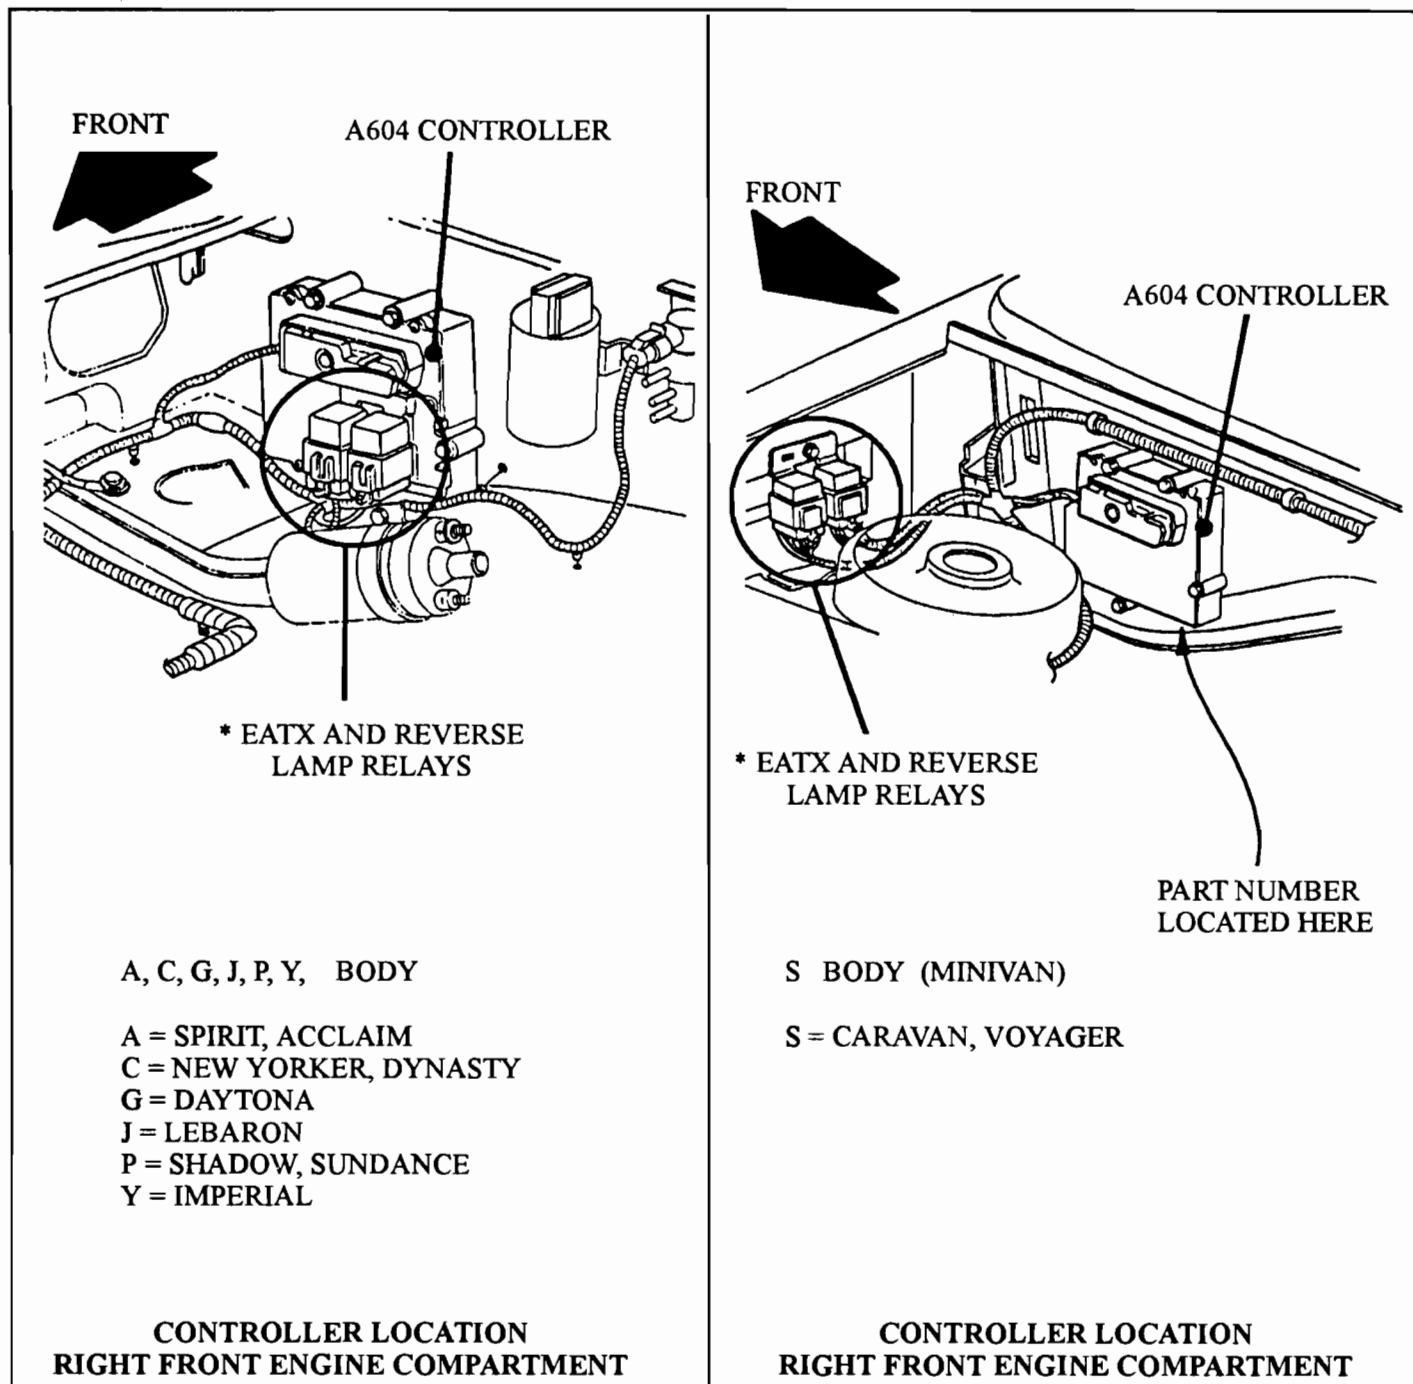

Figure 13
- (1) **TRANSAXLE CONTROLLER** - Controllers can be identified by the OEM part number that is printed on a sticker. This sticker can be located on the bottom of the transaxle controller as shown in figure 13. If the sticker is missing, scanners will also provide controller identification by providing the OEM part number of the controller that is in the vehicle. Refer to the chart on the following page for a brief overview of past controllers. The locations of the controllers will vary depending on the model of the vehicle. Refer to figure 13 for the different locations. Figures 13 and 14 also shows the locations of the EATX relay, as their location will vary depending on the model of the vehicle.